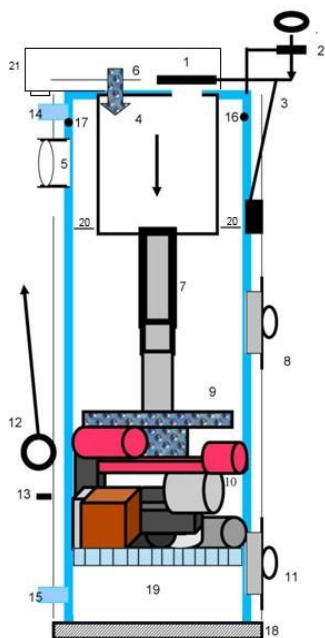
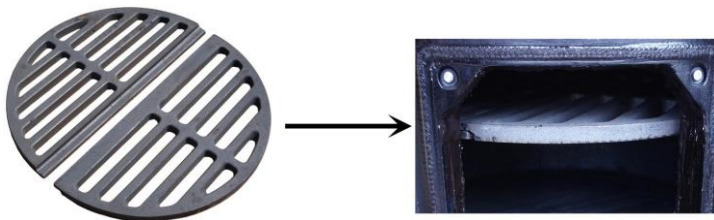
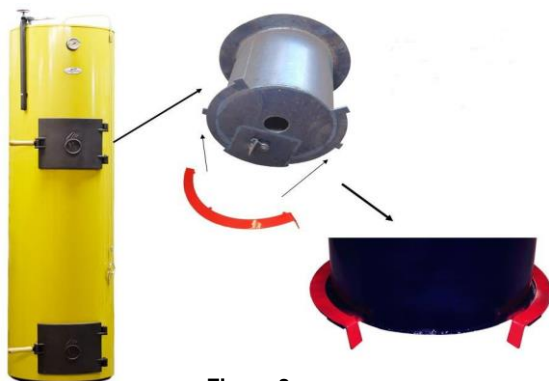

Figure 1
Figure 7
Figure 8
Air distributor's (3 Fig.) purpose is to correctly distribute air in generation zones, located below and next to air distributor, as well as in combustion zones located near and above the distributor. Air distributor (9) (Fig. 1) rests upon the non-flammable edges. The distributor (9) (Fig. 1) must not be moved during combustion: raising and lowering the air distributor - it turns and falls deep into combustion area, making the boiler operate wastefully, wearing of quickly.
Use fire grate (19) (Fig. 1); (Fig. 7), when burning pellets, coal, peat and sawdust briquettes. It needs to be hanged on the hook, located at the bottom of the boiler, inside the lower doors (11) (Fig. 1). Fire grates (19) (Fig. 1); (Fig. 7) can be found by opening the ash removal doors (11) (Fig. 1). This part is attached in "U" boiler for additional air to go through the air channel, which is required when burning coal or peat briquettes. In the "BIO" boiler, it is used, to completely burn the formed cinder. Put the fire grate (19) (Fig. 1); (Fig. 7), at the bottom of universal and "BIO" when burning firewood. When buying universal and "BIO" solid fuel boiler "Stropuva" this part is included. Important to know when changing the fire grate is that it is composed of two separate parts.
Deflectors (crescents) 2 units (Fig. 8) are designed to increase efficiency of the boiler. After installing the boiler, we recommend putting deflectors (20) (Fig. 1) through the upper fuel loading door (8) (Fig. 1) on the bottom edge of the air heating tank.
Valve has to be mounted at the upper boiler part (17) (Fig. 1) near the flue (see 6.2; 6.3; 6.4 in the connection diagrams No. 23). Cold water flowing from the water supply is connected to the automatic replenishment system, which is mounted to heating system's water return line, near the boiler.